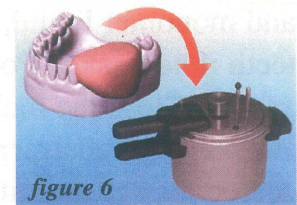

figure 6
6. Put extra self cure resin on the model in the pontic areas. Seat the impression/ mold on the model and hold in place with a rubber band. Cure in the pressure pot (*figure 6*).